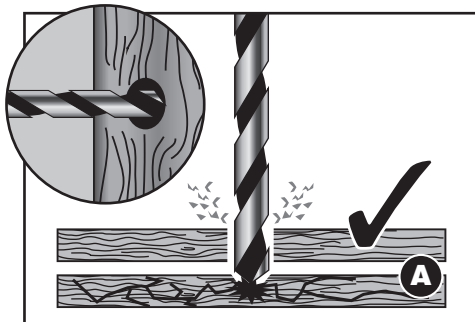

FIG.10
9.6 DRILLING WOOD AND PLASTIC – FIG.10